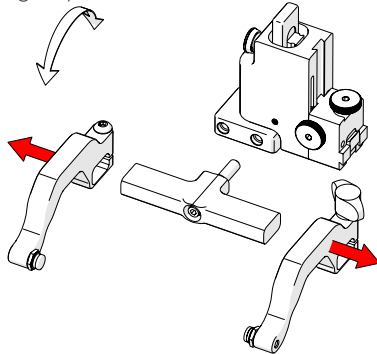

Fig. 44 - Remove probe holder arms
3. Loosen the arm clamp screw and the probe holder arm adjustment knob allowing the removal of the probe holder arms (Fig. 44).